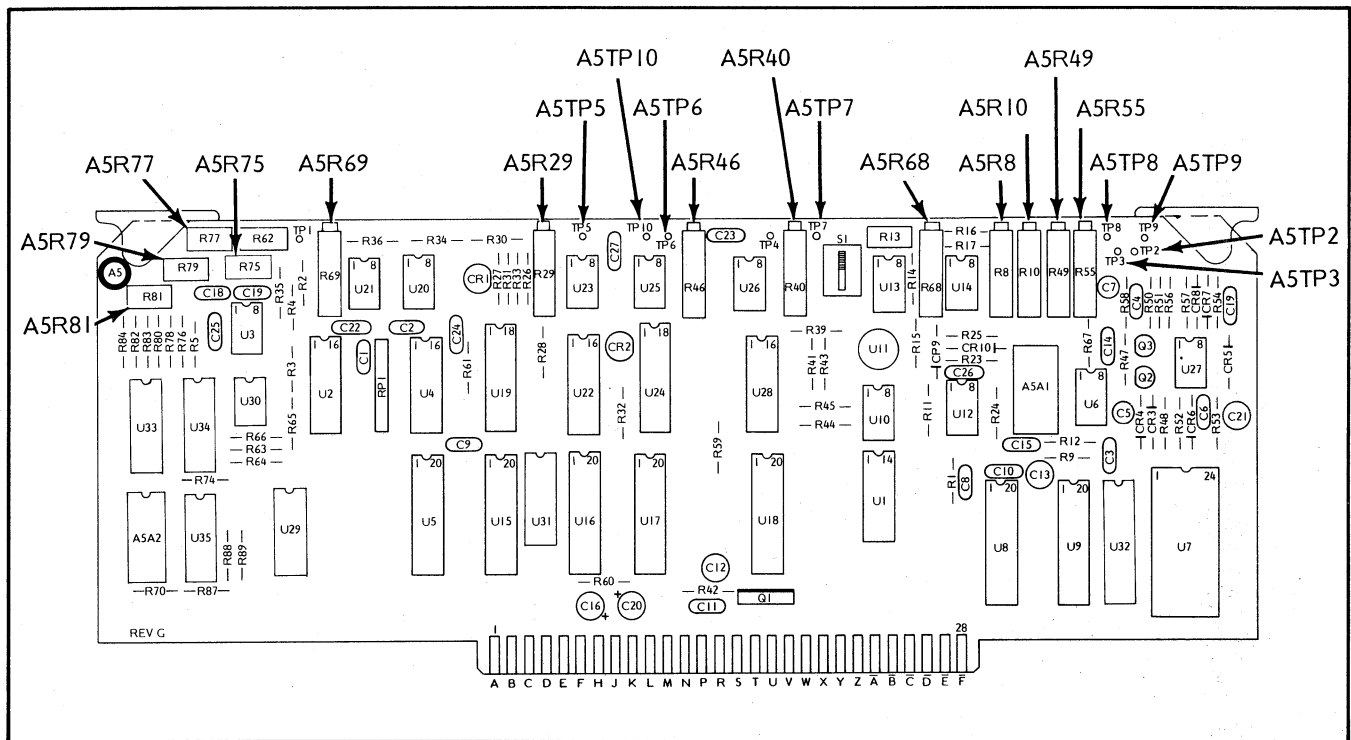

Figure 5-9. A5 Frequency Instruction Adjustments
3. Connect the common lead on the digital multimeter (DMM) to A5TP3 (Figure 5-9) and the test lead to A5TP9.